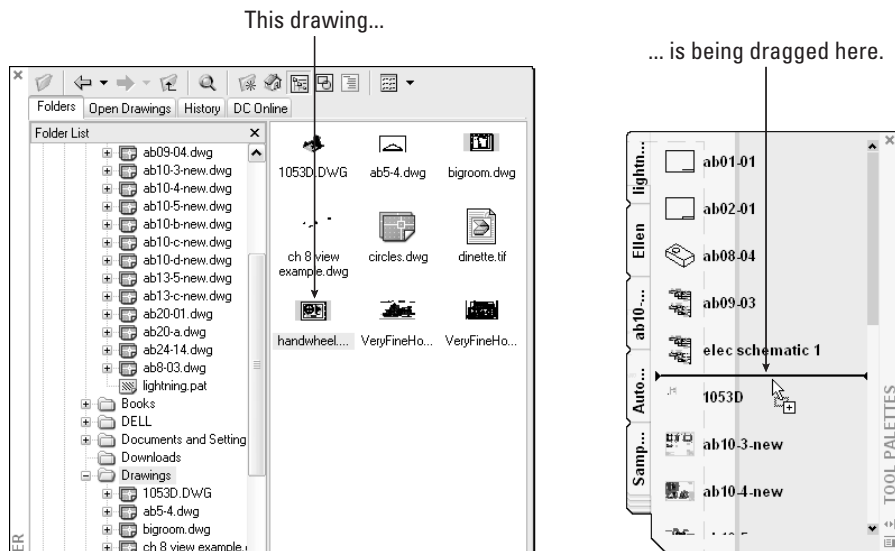

Figure 26-6: Dragging a drawing from the DesignCenter to a tool palette
3. Drag the item onto the tool palette, as shown in Figure 26-6.